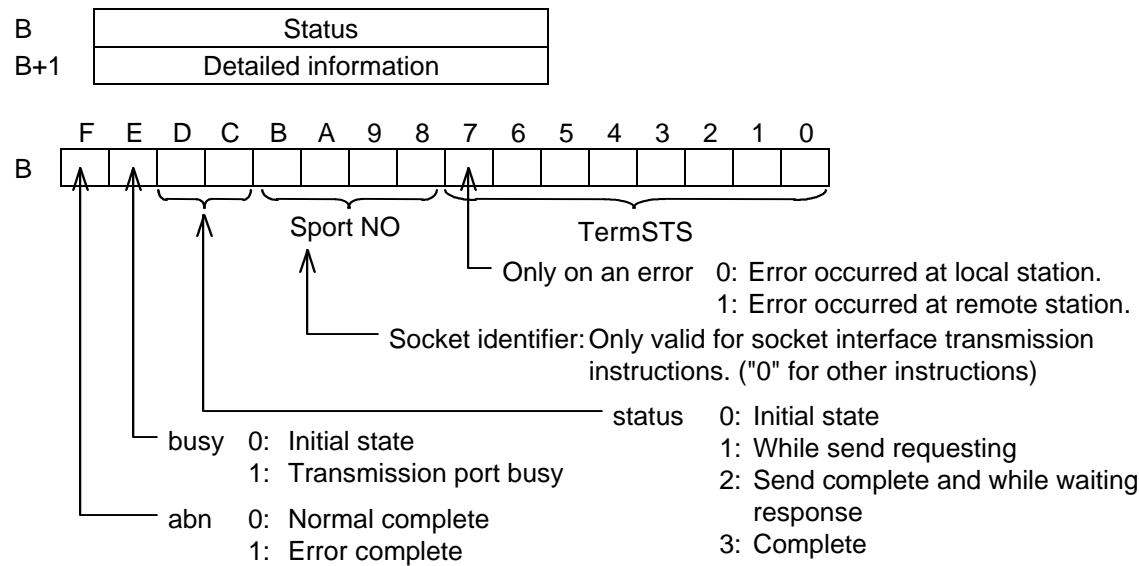

Figure 4.4 Status Structure
The status during the execution of a SEND or RECV instruction and after that instruction terminates is stored in the register shown at B. When TermSTS = 0BH, the detailed information (EN311 error information) will be loaded into the registers indicated at location B + 1. Figure 4.4 shows the structure of the status information. Tables 4.3 and 4.4 list the TermSTS values, and table 4.5 lists the contents of the detailed information.
c. Completion status (See figure 4.4 for details on bits C, D, E and F.)